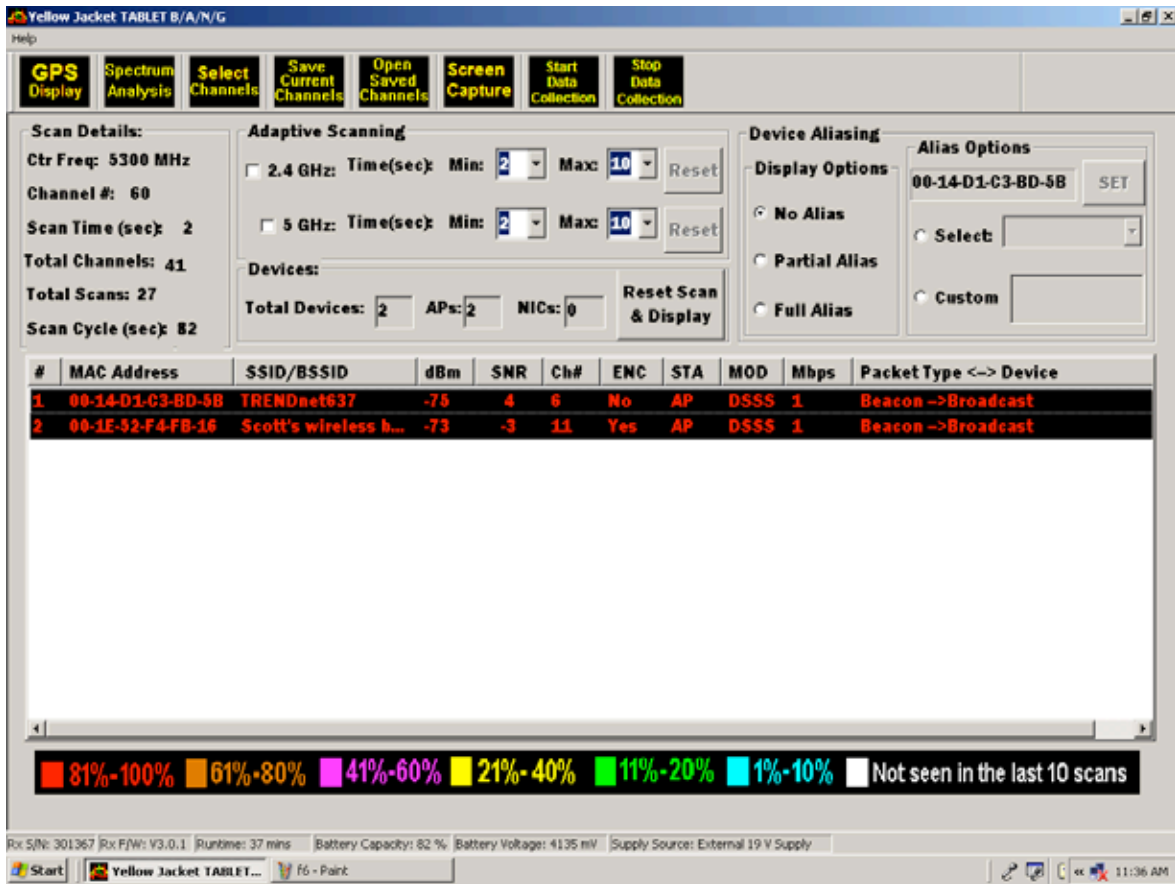
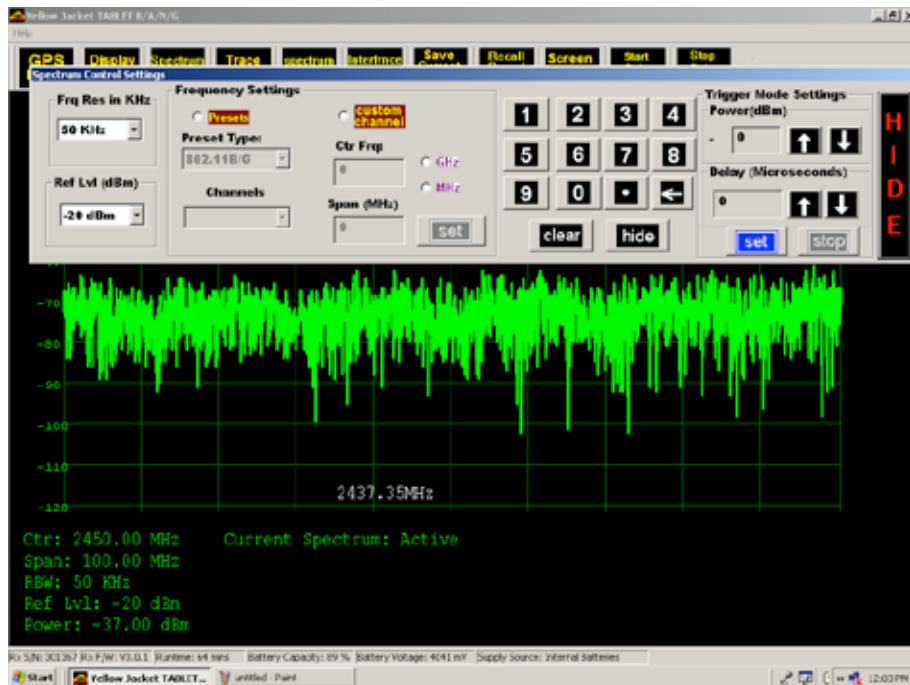

Figure 6. List of Detected Wireless Devices
Figure 7. Spectrum Control Settings panel
Pressing this button will result in a list of detected wireless devices as seen in Figure 6:
The color of the wireless device entries in the list will change as a function of frequency of detection in time, according to the percentages seen at the bottom of Figure 6.
In order to perform Spectrum Analysis on a specific wireless device, first select the device by a left-click, and then press the “Spectrum Analysis” button in Figure 6. This will return the user to the Spectrum Analysis application main window, with a “Spectrum Control Settings” panel as seen in Figure 7. To have full view of the main window tool-bar buttons left-click on the “HIDE” button in the spectrum control panel in Figure 7. More detailed discussions of the Detected Wireless Devices window will be given below in a section with the heading: “MAC List View Detailed Discussion”.
**Spectrum Control Settings:** The frequency control panel pops up on clicking this button, as seen in Figure 7. This can be used to control spectrum settings in the Spectrum View. The Center Frequency, Span, Resolution Bandwidth, reference Level can be set using this panel. Trigger Mode settings can also be set using this panel. Left-click on “HIDE” to close the “Spectrum Control Settings” window.
There are also other buttons which do not appear in the main application (or, Spectrum Analysis) window (Figure 5) but will appear only after the “**Display Devices**” button is pressed, as seen in Figure 6 above. These buttons are:
Wireless Devices window in Figure 6 above, and either select a generic alias from “Select” field or enter a custom alias from the “Custom” field to name the device, as shown in Figures 10 and 11 below: